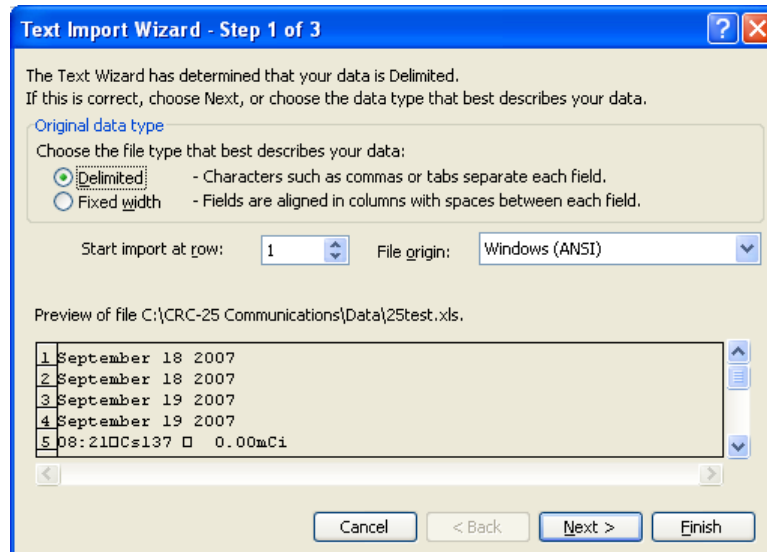

Figure 23
1. Open Excel and select the exported file (*25test.xls* in the example). Figure 23 will appear.